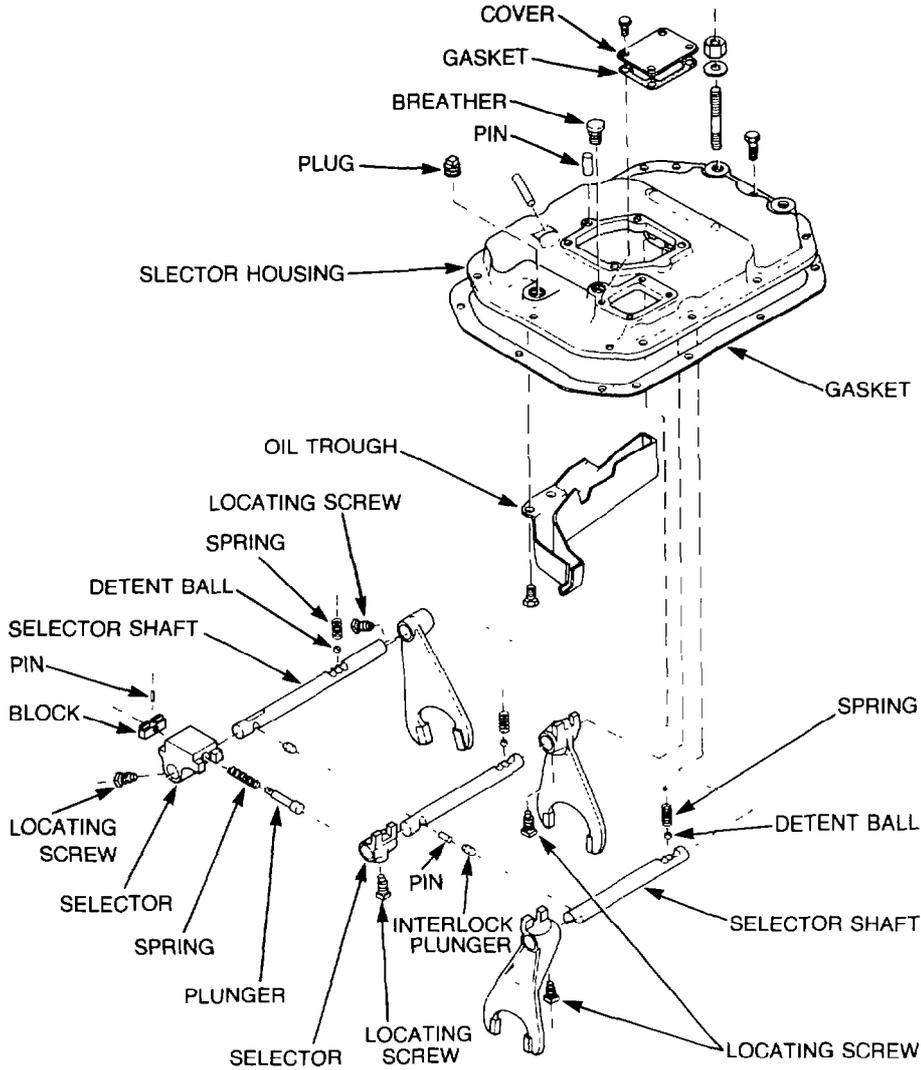

Figure 186 — Selector Housing — Exploded View
- ak. Assemble the oil trough, the selectors, selector shafts and forks onto the selector housing. Ensure that the detent balls, springs, interlock plungers and pins are lubricated with transmission oil and installed correctly (refer to Fig. 186).